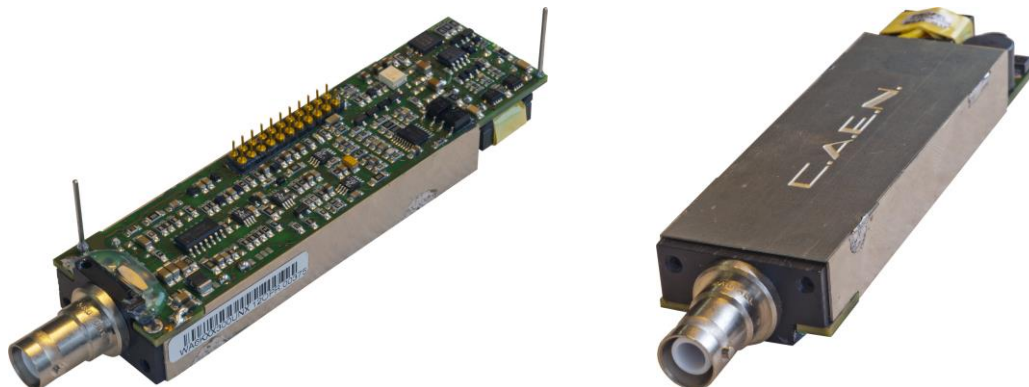

Fig. 6.1: HV output component
The Digital Pulse Analyzer houses High Voltage (HV) Power Supply outputs (4 kV, 3 mA, limited to 4 W) to power supply up to two detectors (the HV component is shown in **Fig. 6.1**). DT5790 is orderable with either positive, negative or mixed polarity (see **Tab. 1.1**). HV outputs are delivered through SHV connectors.